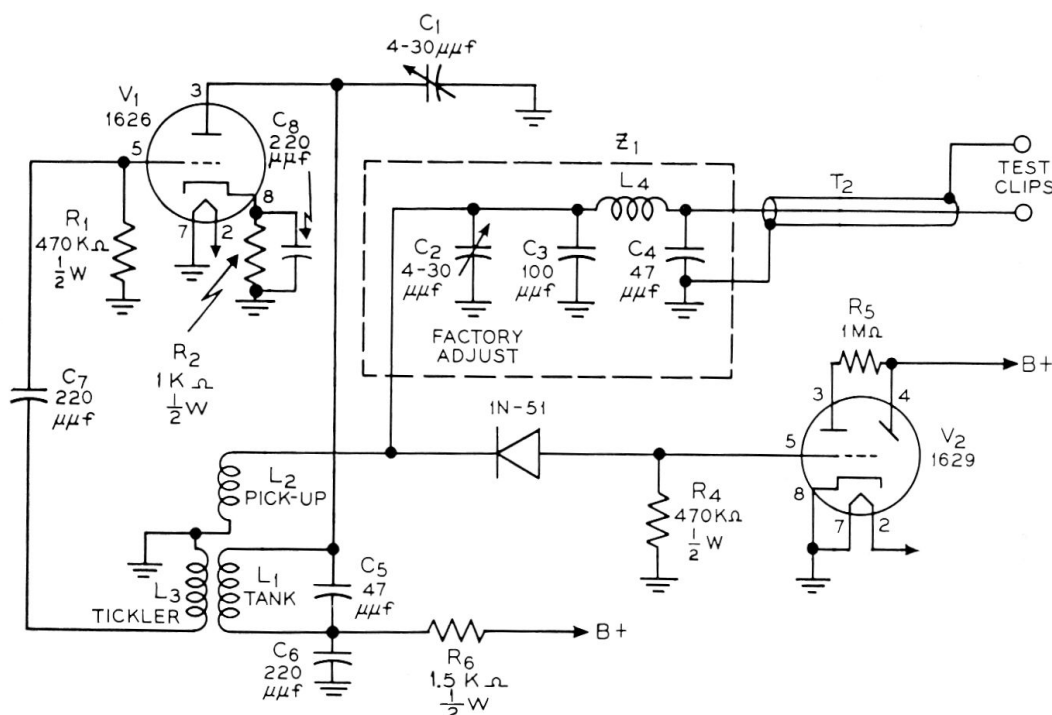

Figure 2 — "Open Test" Circuit
3.1 Fig. 2 shows the basic circuit of the OPEN test which operates as follows: Test cable T_2 and impedance Z_1 constitute a quarter wave transmission line operating at a frequency of approximately 20 mc. A useful property of a quarter wave line is utilized in this test namely that the impedance connected to the output end of the line is reflected to the sending end as a reciprocal, i.e., if the output is shorted the input end "sees" an open circuit. In operation if the test clips are open (or are connected to an open capacitor), the sending end (coupling coil L_2) "sees" a short circuit (zero voltage), which causes the "eye" to remain open. Any capacitance connected to the clips results in a voltage across L_2 (which is rectified by the 1N51), and then impressed upon the grid of the "eye". This d-c voltage causes the "eye" to close in proportion to its magnitude. A small capacitor causes a small closure, while a large capacitor causes the "eye" to close completely.